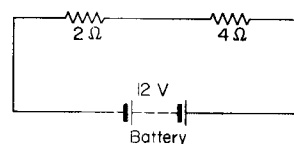

Fig. 2.102
27. Find the voltage-drop across each of the resistors shown in Fig. 2.102.